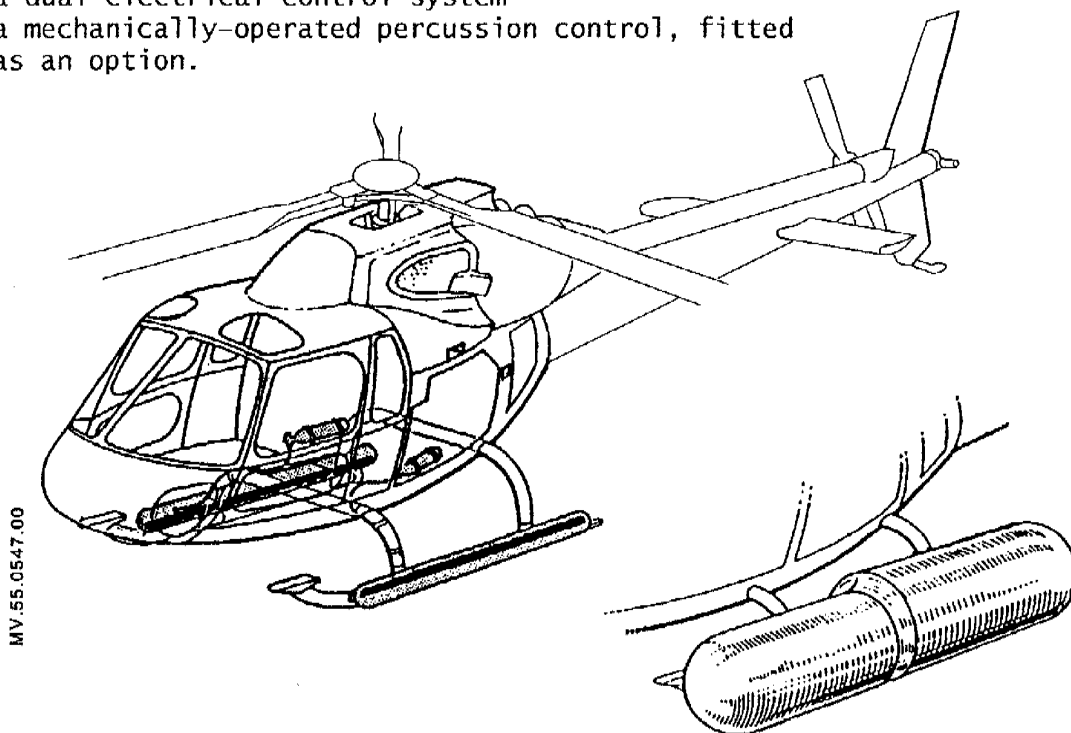

Figure 1
- two floatation bags, each stowed on a skid (Figure 1), which, in the upper position, allow the handling wheels to be installed.